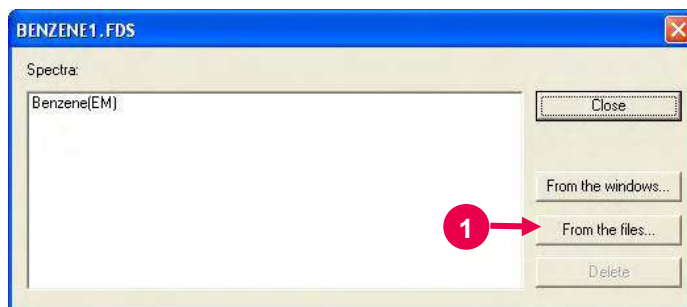
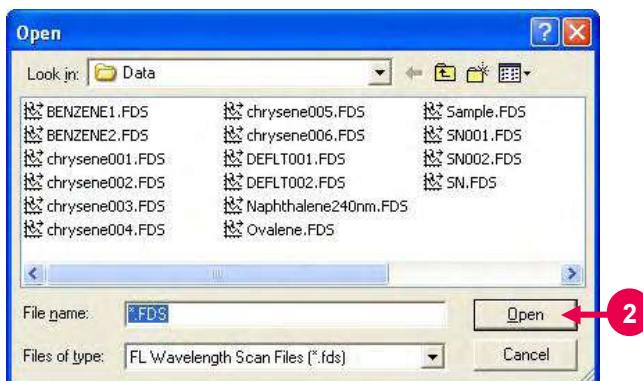

Fig. 7-23
Fig. 7-24
- (1) Select the Overlay command from the Data menu.
- (2) A dialog box as in Fig. 7-23 will appear.
- (3) Click **From the files** in Fig. 7-23. (Refer to ① in Fig. 7-23). A window as in Fig. 7-24 will open.
- (4) Select a file name for overlaid display and click **Open**. (Refer to ② in Fig. 7-24.)